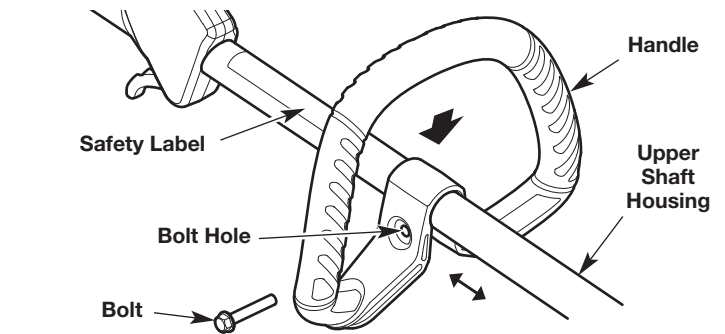

Fig. 6
1. Push the handle down onto the upper shaft housing (Fig. 6). Make sure the bolt hole faces to the right (Fig. 6).
2. Insert the bolt into the bolt hole and push it through (Fig. 6). Tighten the bolt with a flat-head screwdriver, but do not tighten the bolt completely.
3. Hold the unit in the operating position (Fig. 14). Move the handle up or down the upper shaft housing to a comfortable location (Fig. 6). Make sure the handle is positioned beyond the end of the safety label (Fig. 6).
1. Loosen the bolt with a flat-head screwdriver (Fig. 6).
2. Hold the unit in the operating position (Fig. 14). Move the handle up or down the upper shaft housing to a comfortable location (Fig. 6). Make sure the handle is positioned beyond the end of the safety label (Fig. 6).